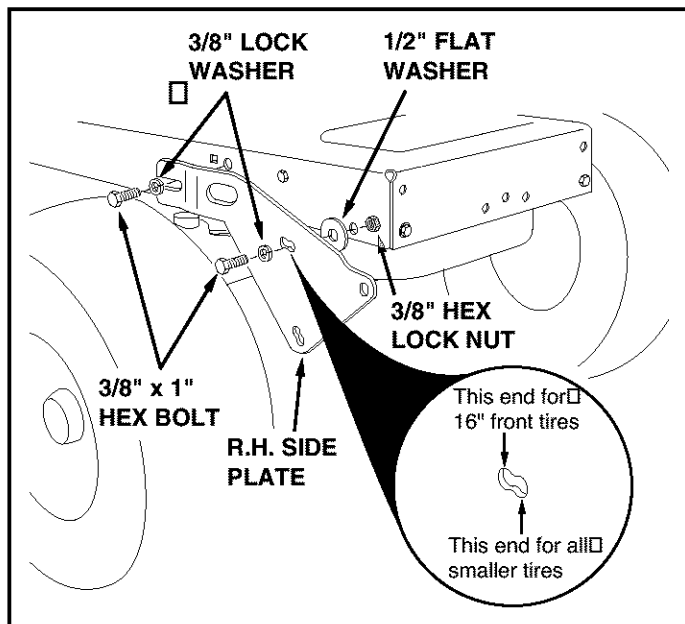

FIGURE 5
- Attach the R.H. Side Plate (marked "R") to the right side of the tractor frame as shown in figure 5. For the front hole use a 3/8" x 1" hex bolt, a 3/8" lock washer, and a 1/2" flat washer. Use the flat washer as a shim between the frame and the side plate. For the rear hole use a 3/8" x 1" hex bolt, and a 3/8" lock washer. Repeat for the L.H. side.